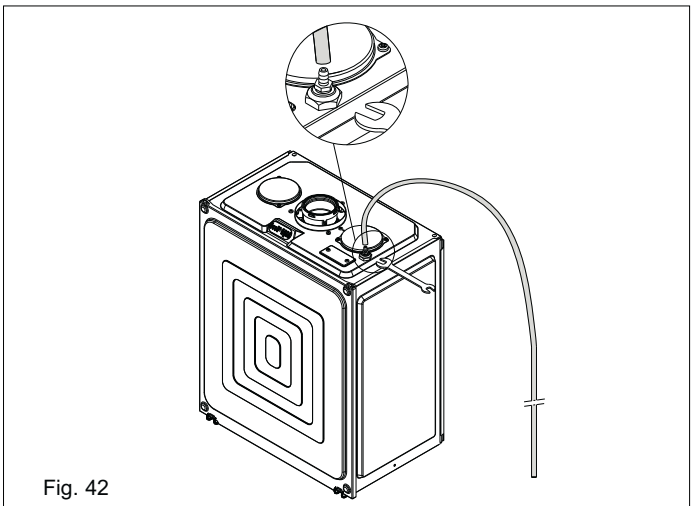

Fig. 42
5. PURGE AIR FROM BOILER MANUAL AIR RELEASE (Fig. 42)